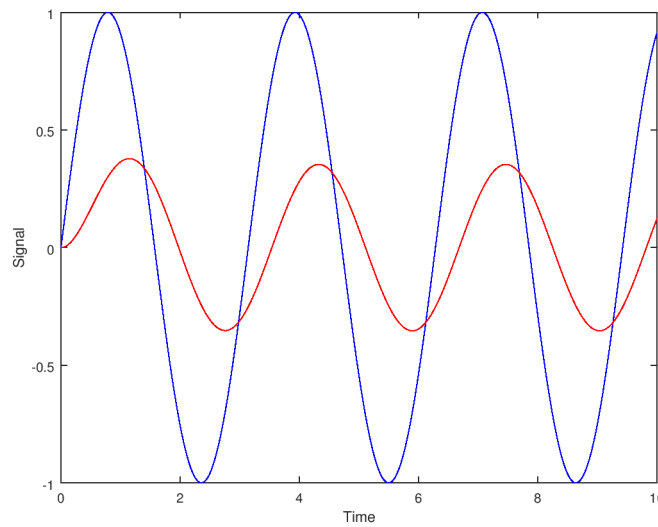

Figure 1.2: Sine Wave Goes In, Sine Wave Comes Out
- *Sine Wave In, Sine Wave Out* - Stick a sine wave into the system, and you’ll get a sine wave out. It may have different amplitude and phase relative to input, but it’ll be a sine wave with the same frequency. This is actually one of the key points about linear systems that will be heavily exploited later: gain and phase shift. (See Figure 1.2. The blue trace is the input signal to a transfer function, and the red trace is the resulting output.)¹